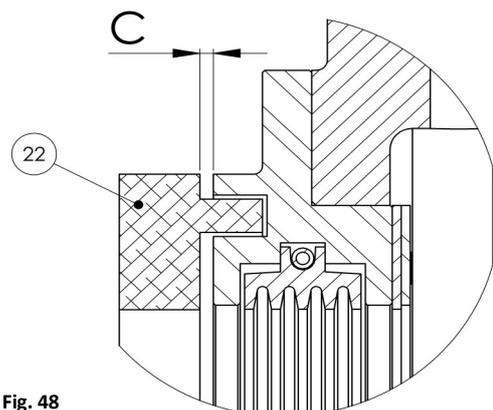

Fig. 48
- Adjust the clearance “c”, see (fig. 48).